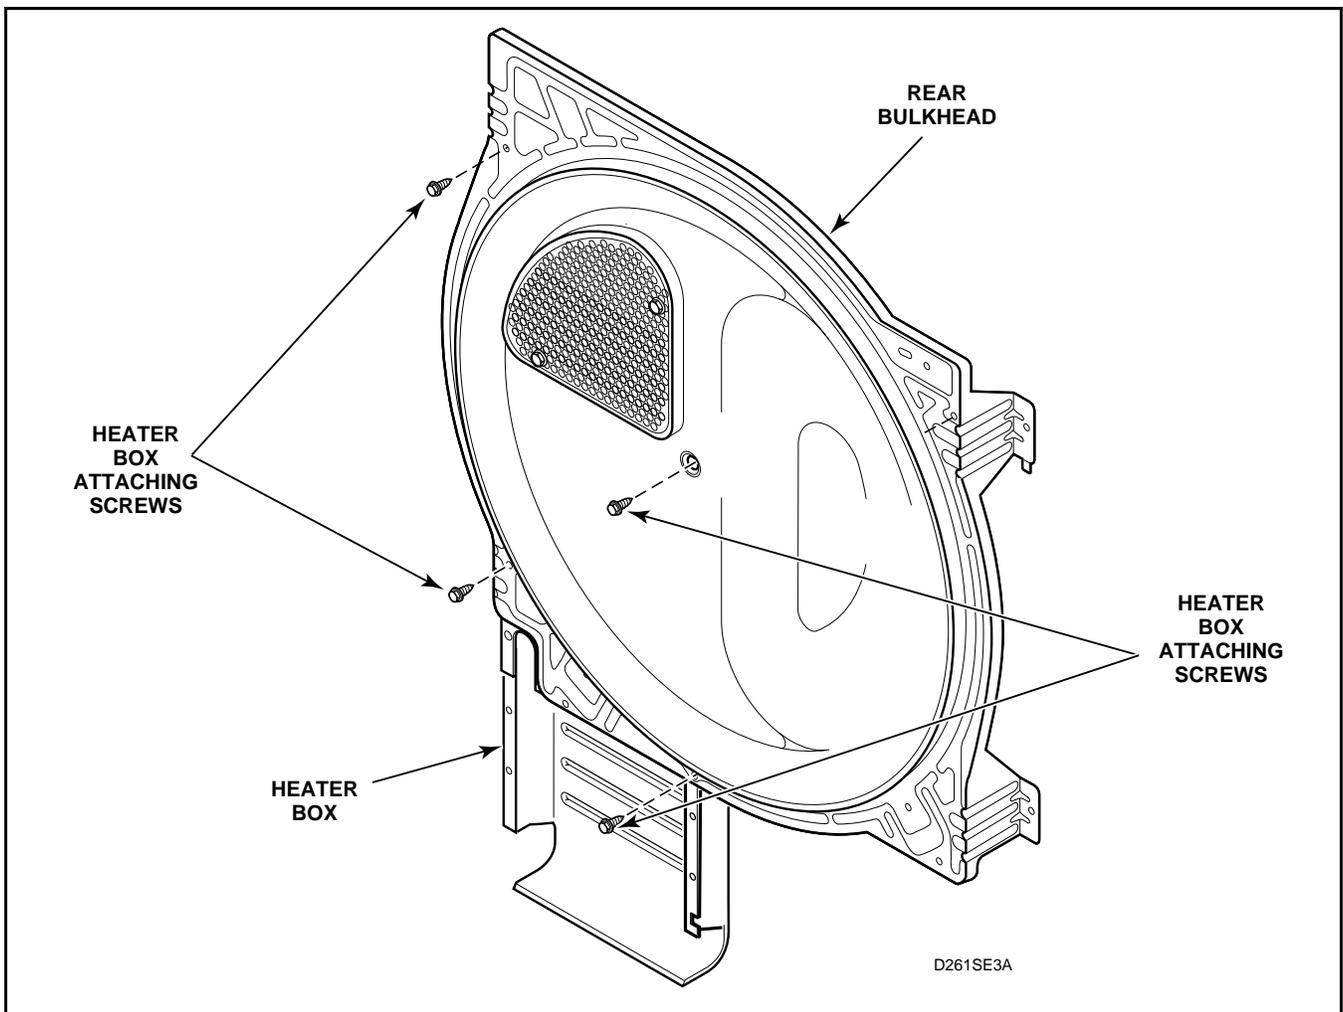

Figure 33
- (5.) Remove heater box from rear bulkhead. See *Figure 33*.
- k. To remove heater box from rear bulkhead. See *Figure 33*.